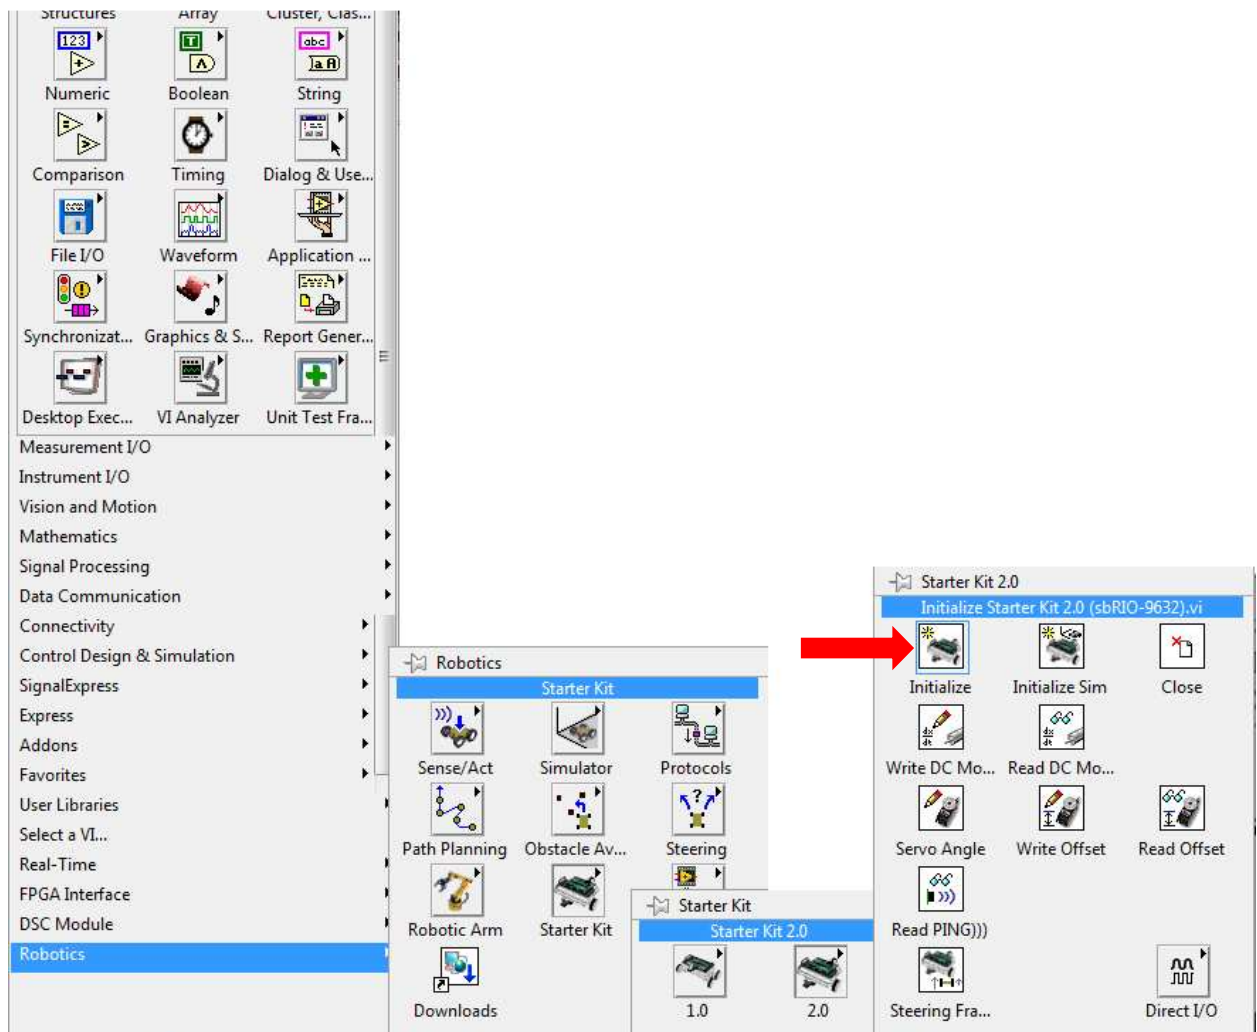

Figure 2.2
1. Initialize (*See Figure 2.2*)